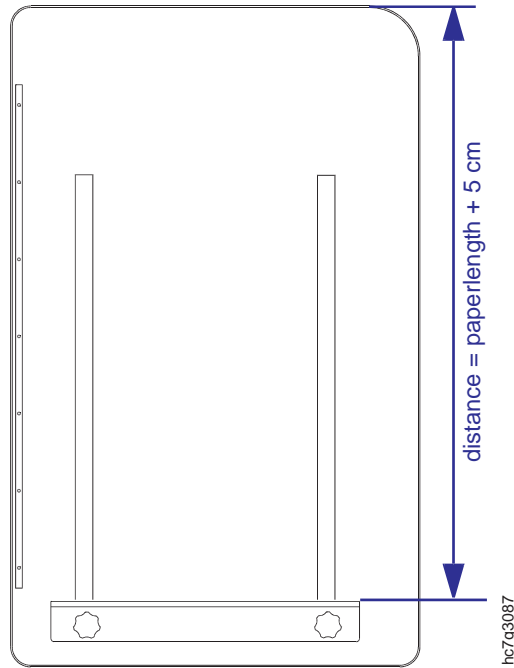

Figure 121. Position of Backstop
2. The distance between the front edge of the table and the paper backstop must be approximately 5 cm (2 inches) larger than the length of the stacked print medium. See Figure 121 on page 117.